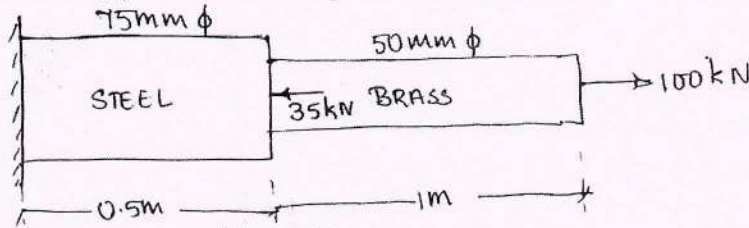

Fig.Q1(b)
- b. Two solid cylindrical rods are connected and loaded as shown in Fig.Q1(b). Determine: (i) Total deformation (ii) Deformation at point B. $E_S = 200 \text{ GPa}$, $E_b = 100 \text{ GPa}$.